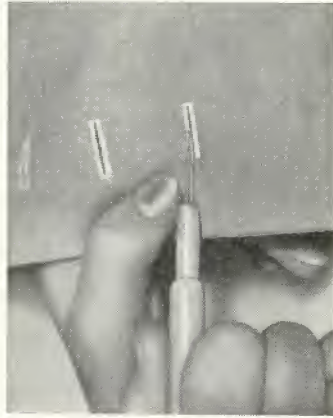

Fig. 27.
10. Carefully cut the material between the two rows of stitches with the buttonhole cutter (S 15399, inside front cover) which is included among the attachments (Fig. 27).